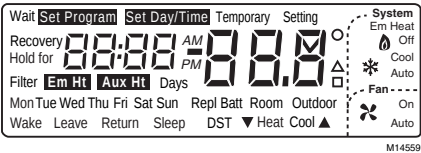

Fig. 9. LCD segments display.
- 2. Observe all segments of the display are displayed before the 10 appears. See Fig. 9 and 10.